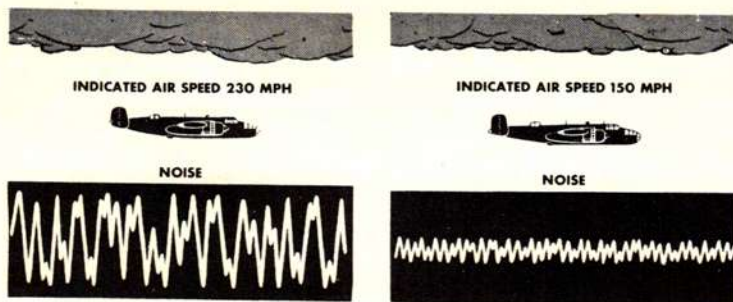

Figure 4-9-1. Speed-noise ratio. At lower speed there is less static.
(1) Reduce speed (fig 4-9-1). Do not, however, lower the undercarriage. In most types of aircraft, this produces an additional source of corona discharge.